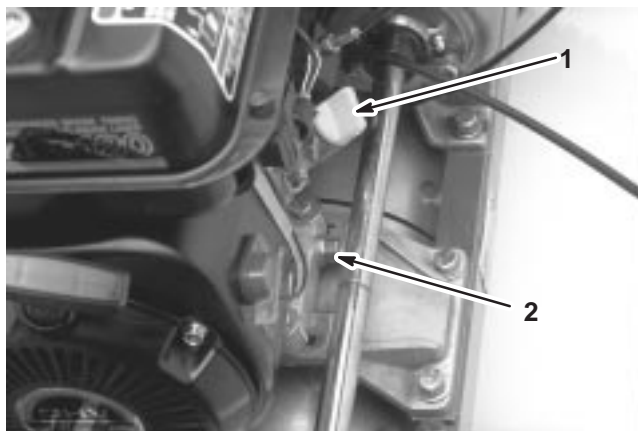

Figure 29
2. Clean around the oil level gauge (Fig. 29).
2. Place a drain pan at the rear of machine, under the drain plug (Fig. 29).